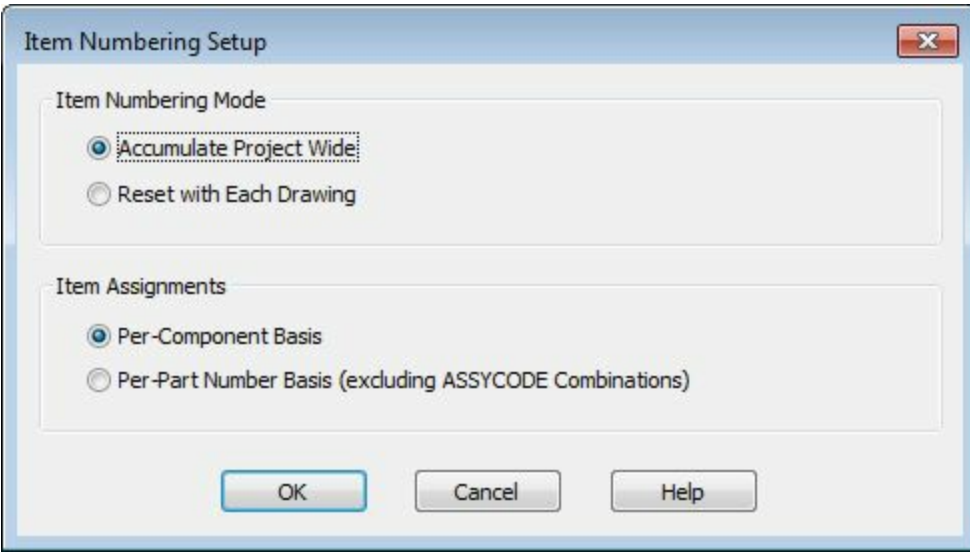

Figure-16. Item Numbering Setup dialog box
- Click on the **Item Numbering** button to setup the item numbering mode for the current project. On clicking this button, the **Item Numbering Setup** dialog box is displayed; refer to Figure-16. If the **Accumulate Project Wide** radio button is selected in the **Item Numbering Mode** area of the dialog box then the item numbering continues from one drawing to another drawing in the project. If you select the **Reset with Each Drawing** radio button then the numbering restarts from 1 in the each drawing with its respective suffix/prefix.